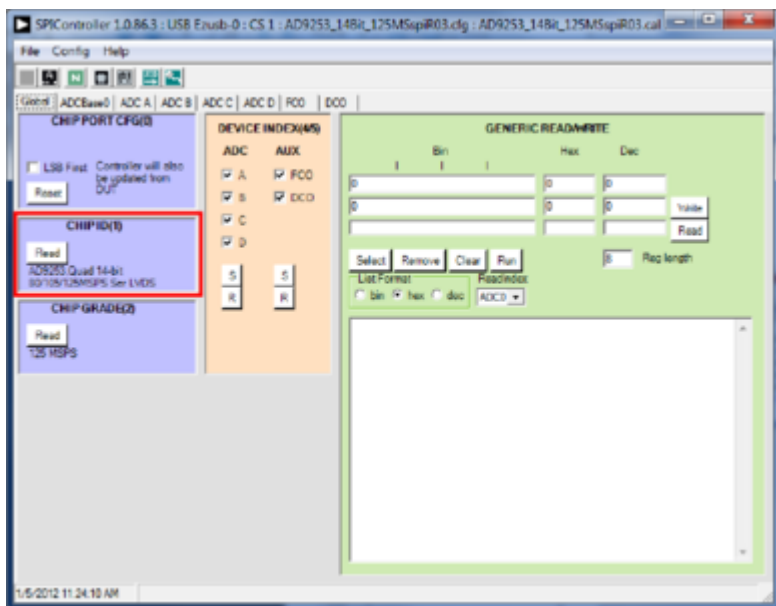

Figure 7. SPI Controller, CHIP ID(1)
1. Open the SPI controller software by going to the **Start** menu or by double-clicking the **SPIController** software desktop icon. If prompted for a configuration file, select the appropriate one. If not, check the title bar of the window to determine which configuration is loaded. If necessary, choose **Cfg Open** from the **File** menu and select the appropriate file based on your part type. Note that the **CHIP ID(1)** box should be filled to indicate whether the correct SPI controller configuration file is loaded (see Figure 7).